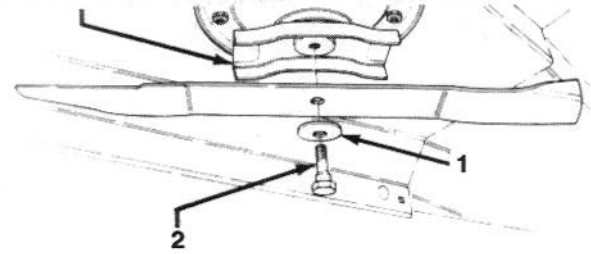

Figure 13
2. Grasp the end of the blade using a rag or thickly padded glove. Remove the special screw, belleville washer and blade from the spindle assembly (Fig. 13).